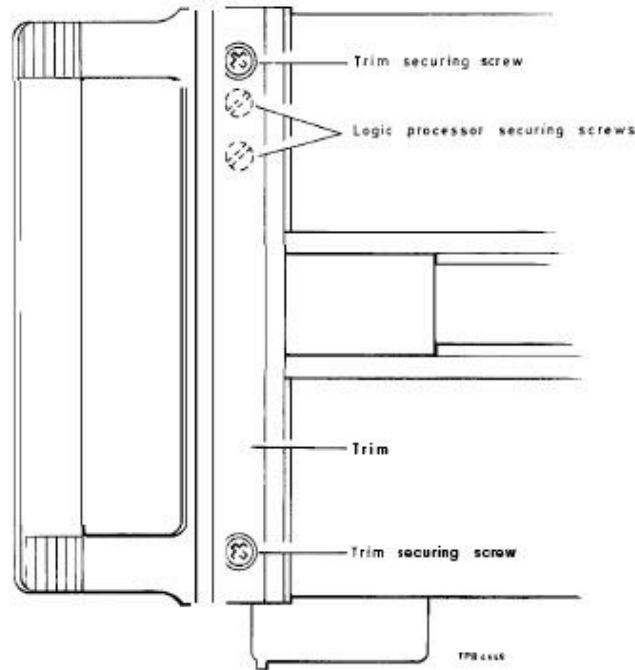

Fig. 1 Logic processor unit front securing screws
- (1) Remove instrument outer covers. Both top and bottom covers are easily removed by withdrawing two fastening screws for each cover, these are secured to the rear panel.
- (2) Detach and discard the front and rear feet on the bottom cover.
- (3) Remove the trim strips from the side of both front carrying handles, each of these are held by two countersunk screws, see Fig. 1 below.
- (4) Temporarily remove the right-hand, side handle and side rail as follows:-
- (5) Remove the two front logic processor securing screws from the right-hand front carrying handle, see Fig. 1, and similarly the corresponding screws on the left-hand side carrying handle.